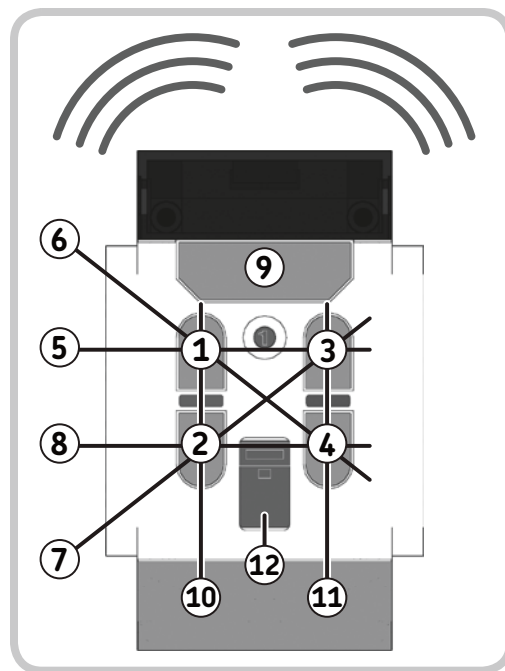

Figure 6-1: The Remote IR Beacon
The Remote IR Beacon is powered by two AAA batteries. It has holes on each side, which make it easy to incorporate into a LEGO Technic model. As you can see in Figure 6-1, it has four small buttons (labeled 1, 2, 3, and 4), a large button (9), and a red Channel Selector switch (12). The Channel Selector lets you choose among four channels, so you can use up to four Remote IR Beacons at once. A number engraved in red plastic in the small circular window shows the current channel. (As long as each remote is set to a different channel, its signal won't interfere with other remotes' signals.)
In the first mode, with the Remote Channel Selector (labeled 12 in Figure 6-1) on channel 1, you can control a motor connected to port B with buttons 1 (forward) and 2 (backward), and you can control a motor connected to port C with buttons 3 (forward) and 4 (backward). While in the same mode, you can control motors connected to ports A and D with another remote on channel 2. The second mode works similarly but receives commands from remotes set on channels 3 or 4.